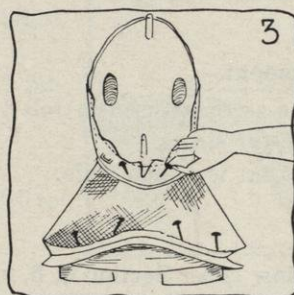

FIG. 3.
- e. Tack headsize firmly. Use staples if the marks made by them will not show, or use pins, if they will hold headsize firmly (see Figure 3).
- (1) Read and follow Precautions (1) through (6) in Section 1 *b* of Job 12, and follow Sections 2, 3 and 4 of the same job (page 53).